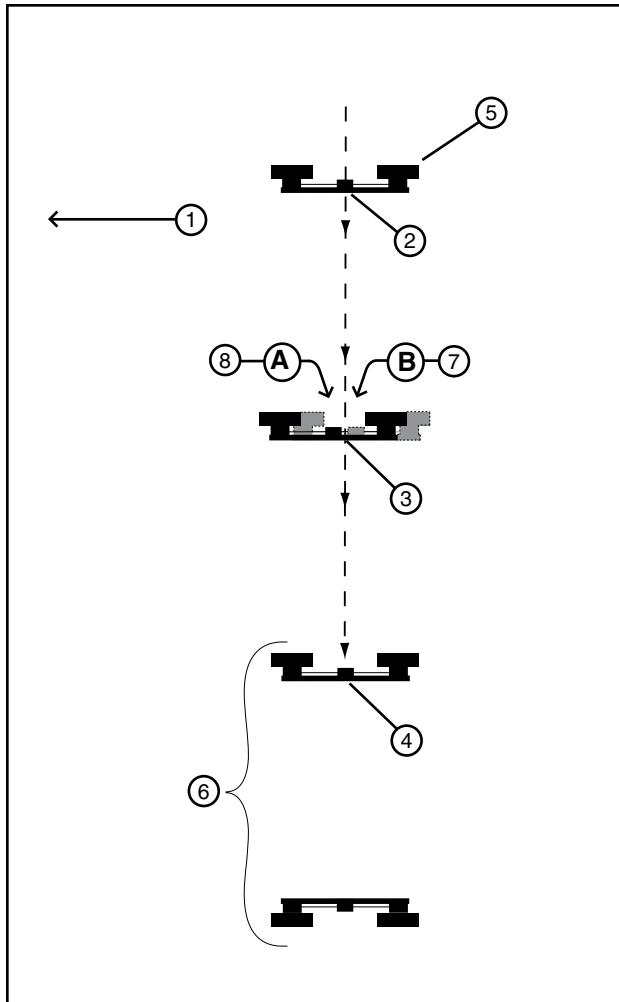

Figure 50-1 1. Direction of Travel 5. End Tower
2. Begin the alignment procedure from the end tower. Identify the first three towers as 1, 2, and 3. Use towers 1 and 3 to align tower 2. See figure 50-1.
3. Sight an imaginary center line between the center of the tower drive motor 1 to the center of the tower drive motor 3. See figure 50-1.
4. Observe the movement of the tower drive motor 2 it should start and stop equal distances from the imaginary center line. See figure 50-1.